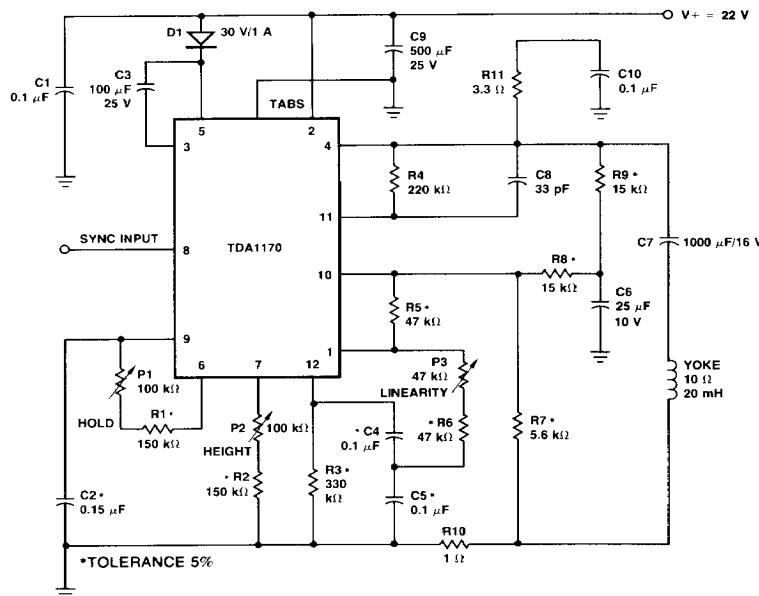

Fig. 3
The voltage on the inverting input of the amplifier ( $V_{10}$ ) is  $V_{10} \approx 2$  V. Typical application circuits are shown in Figures 3 and 4. A printed circuit board layout is shown in Figure 5.
**Typical performance of circuit in Fig. 3 ( $V_+ = 22$  V;  $I_Y = 1$  A;  $R_Y = 10 \Omega$ ;  $L_Y = 20$  mH)**
## PC BOARD AND COMPONENT LAYOUT FOR THE CIRCUIT OF FIG. 3 AND FIG. 4 (1:1 SCALE)